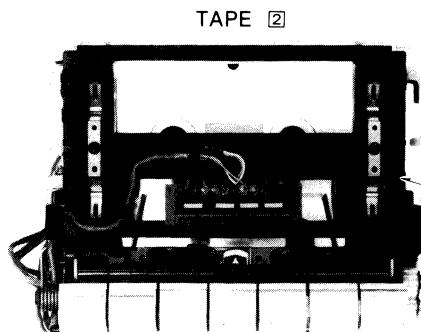
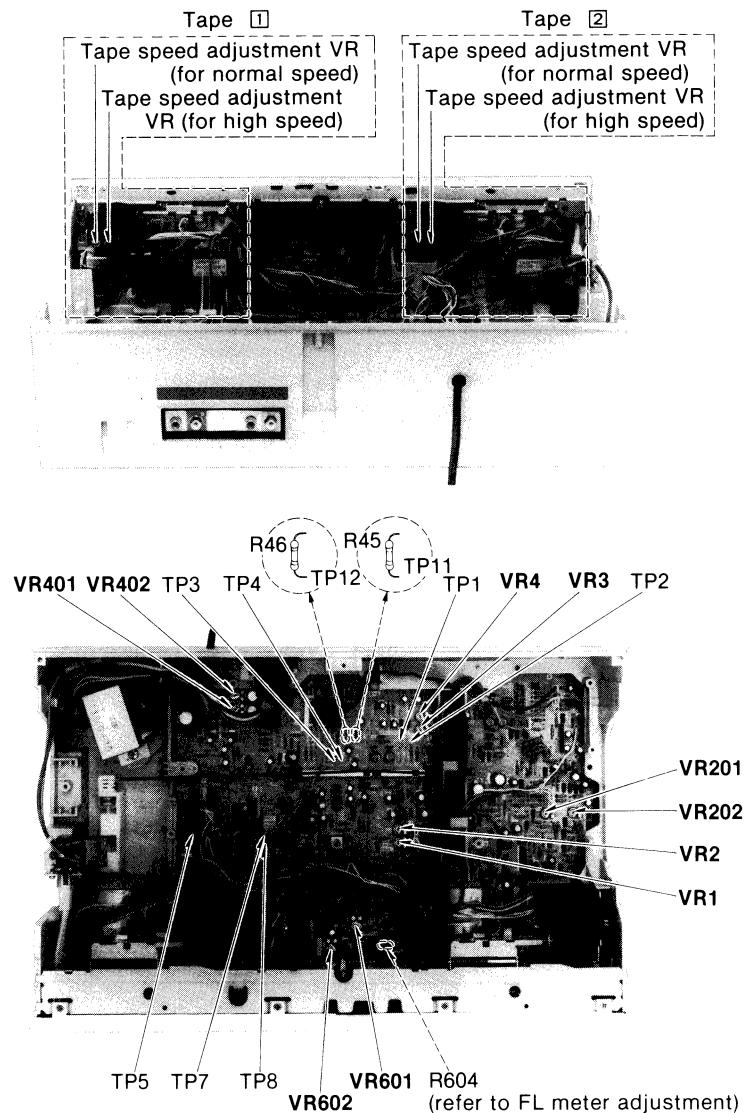
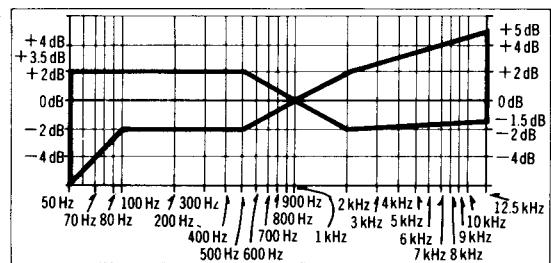
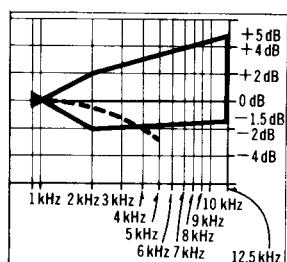

Fig. 8
Fig. 1
Fig. 11
Fig. 14
C Tape speed [TAPE 1, TAPE 2] Condition: • Playback mode • Dubbing speed switch ... Normal/high Equipment: • Digital electronic counter or frequency counter • Test tape ... QZZCWAT	<p>Normal speed adjustment</p> <p>TAPE 1</p> <ol style="list-style-type: none"> 1. Make connections as shown in fig. 8. 2. Set the dubbing speed switch to Normal. 3. Play the test tape (QZZCWAT) with the TAPE 1 head, and measure the playback signal frequency. If the playback signal frequency does not conform to the standard value, adjust the normal speed adjustment VR for the TAPE 1 head (See fig. 1). <p>Standard value: TAPE 1 (Playback deck: Normal speed) 3010±45 Hz</p> <p>TAPE 2</p> <ol style="list-style-type: none"> 4. Play the test tape (QZZCWAT) with the TAPE 2 head, and measure the playback signal frequency, and then adjust the normal speed adjustment VR for the TAPE 2 head so that the playback signal frequency is 15 Hz lower than the output signal frequency after adjustment of TAPE 1. <p>High speed adjustment</p> <p>Note: Perform high speed adjustment about 10 seconds after the start of motor rotation.</p> <ol style="list-style-type: none"> 1. Make connections as shown in fig. 8. 2. Set the dubbing/mixing switch to off, and set the dubbing speed switch to high. Short between TP7 and TP8. 3. Play the test tape (QZZCWAT) with the TAPE 1 head and measure the playback signal frequency. If the playback signal frequency does not conform to the standard value, adjust the high speed adjustment VR for the TAPE 1 head (See fig. 1). <p>Standard value: TAPE 1 (Playback deck: Normal speed) 6020±90 Hz</p> <ol style="list-style-type: none"> 4. Play the test tape (QZZCWAT) with the TAPE 2 head, and measure the playback signal frequency, and then adjust the high speed adjustment VR for the TAPE 2 head so that the playback signal frequency is 30 Hz lower than the output signal frequency after adjustment of TAPE 1. 5. After high speed adjustment, remove the short between TP7 and TP8. <p>Tape speed fluctuation</p> <p>TAPE 1, TAPE 2</p> <p>Make measurements in same manner as above (beginning, middle and end of tape), and determine the difference between maximum and minimum values and calculate as follows:</p> $\text{Tape speed fluctuation (Normal speed)} = \frac{f_1 - f_2}{3,000} \times 100 (\%)$ <p>f_1 = maximum value, f_2 = minimum value</p> $\text{Tape speed fluctuation (High speed)} = \frac{f_1 - f_2}{6,000} \times 100 (\%)$ <p>f_1 = maximum value, f_2 = minimum value</p> <p>Standard value: Less than 1%</p> <p>Note: Please use non metal type screwdriver when you adjust tape speed on this unit.</p>
G Overall frequency response [TAPE 2] Condition: • Record/playback mode • Normal tape mode • CrO ₂ tape mode • Metal tape mode • Input level controls ... MAX Equipment: • VTVM • AF oscillator • ATT • Oscilloscope • Resistor (600Ω) • Test tape (reference blank tape) ... QZZCRA for Normal ... QZZCRX for CrO ₂ ... QZZCRZ for Metal	<p>Note Before measuring and adjusting, make sure that the playback frequency response (For the method of measurement, please refer to the playback frequency response).</p> <p>Overall frequency response adjustment</p> <p>(Recording equalizer is fixed.)</p> <ol style="list-style-type: none"> 1. Make connections as shown in fig. 8. 2. Place UNIT into normal tape mode and load the test tape (QZZCRA). 3. Input a 1 kHz, -24 dB signal through LINE IN. Place the set in record mode. 4. Fine adjust the attenuator to obtain a 0.4 V LINE OUT output. <ul style="list-style-type: none"> • Make sure that the input signal level is -24 ± 4 dB with 0.4 V output voltage. 5. Adjust the attenuator to reduce the signal level. 6. Adjust the AF oscillator to generate 12.5 kHz signals, and record these signals. 7. Playback the signals recorded in step 6. If the curve is within the charted specification, proceed to step 8. If the curve is not within the charted specification, repeat steps 6 and 7. <p>Adjustment (A): When the curve exceeds the overall frequency response chart specifications (fig. 13),</p> <p>Fig. 13</p> <ol style="list-style-type: none"> 1) Increase bias current by turning VR401 (L-CH) and VR402 (R-CH). (See fig. 1 on page 6.) 2) Repeat steps 6 and 7 to confirm. (Proceed to steps 8, 9 and 10 if the curve is now within the charted specification (fig. 11).) 3) If the curve still exceeds the specification (fig. 11), increase bias current further and repeat steps 6 and 7.
recorded in step 6, and check if the frequency response curve is within the limits of the frequency response chart for normal tapes (fig. 11).
When the curve falls below the overall frequency response chart specifications (fig. 11) as shown in fig. 14.
(Proceed to steps 8, 9 and 10 if the curve is now within the charted specifications in fig. 11.)
- 3) If the curve still falls below the charted specifications (fig. 11), reduce bias current further and repeat steps 6 and 7.